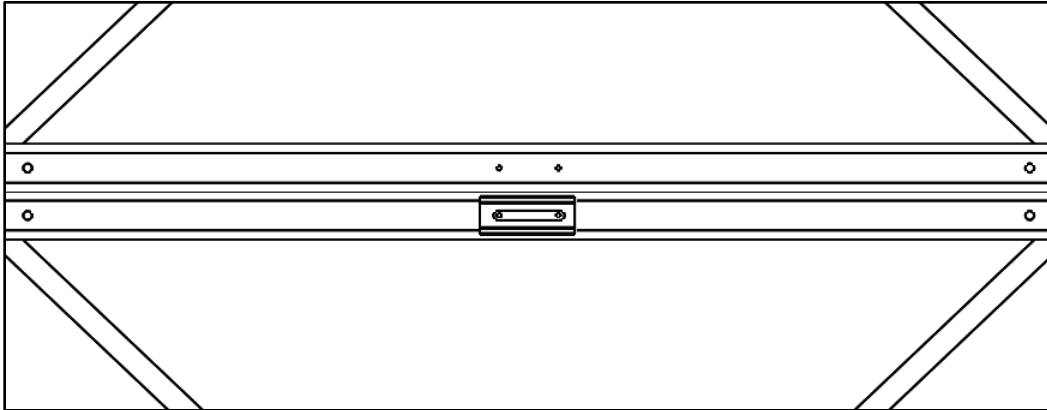

Figure 20. Eye/Face Wash Mount Steel Strut Placement
1. Place one (1) Eye/Face Wash Mount Steel Strut (Item #2) approximately in the center of the lower bar over the two Eye/Face Wash mounting holes as shown in Figure 20. The holes are drilled, but not tapped.